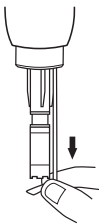

Figure 1
2. Remove the stir paddle by firmly grasping it and pulling it straight out. See **Figure 1**.